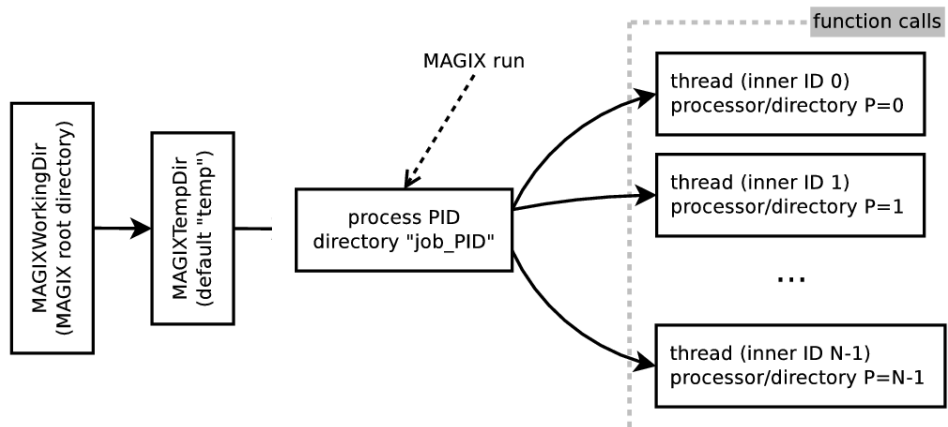

Figure 6: The tree below the MAGIX root directory, together with the N temporary directories created in one MAGIX session.
The tree from the MAGIX root directory and below is shown in fig. 6. Each processor has its own thread (its own process identification number) and its own running directory.
It is absolutely necessary for the external model program that **the start script and the input/output file(s) have to be allowed to be copied to arbitrary directories**: The external model program has to allow its start script be moved to an arbitrary directory, and the input and the output files have to be read from and written in the directory where the start script is located. This arbitrary directory is the temporary directory that is created for each thread, see fig. 6.
- When you run MAGIX (giving the command at the root directory of MAGIX – that is where MAGIX runs), the external model program is not executed in the root directory of MAGIX. Instead, MAGIX copies the start script located in the directory, which is given by the tag `<PathStartScript>`, to the directory of the current thread (the thread directories are visualized on the right side of fig. 6).